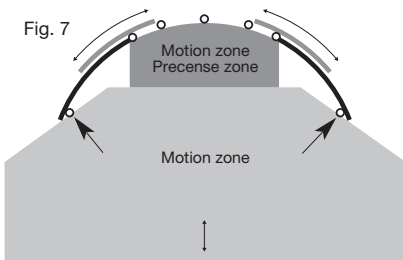

Fig. 7
- Curved door inside:** Use 7 markers (see fig. 7)